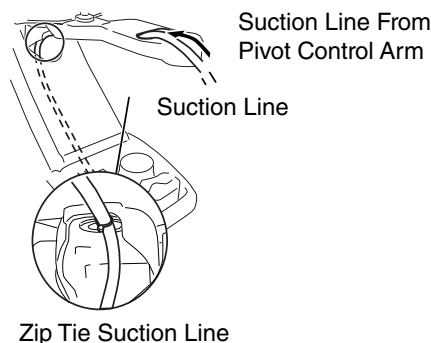

Figure 4: Pivot control arm suction line.
2. Route and secure suction line. (See Figure 4).